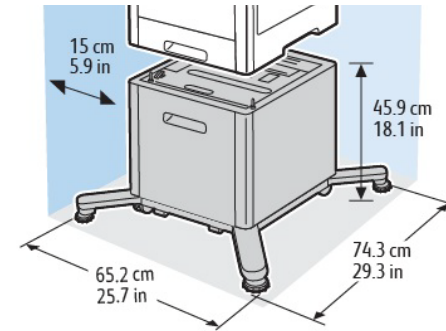

Figure 6 Caster base with HCF
- Figure 6, Table 10: Caster stand with HCF